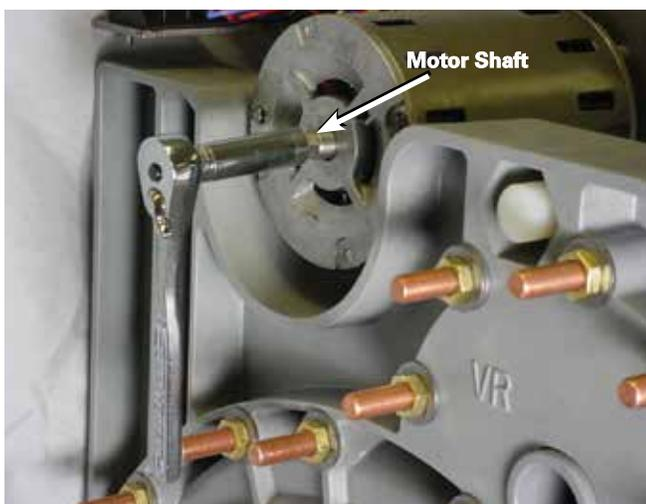

Figure 3. Motor and reversing movable contact rotation.
2. If the reversing movable contacts are setting on the VL reversing stationary contact, place a 3/8" socket onto the rear shaft of the motor. See Figure 3. Using a ratchet, rotate the motor shaft counter-clockwise to move the reversing movable contacts off of the reversing stationary contact. It may be necessary to rotate the tap changer through several positions before the movable reversing contact will begin to move.